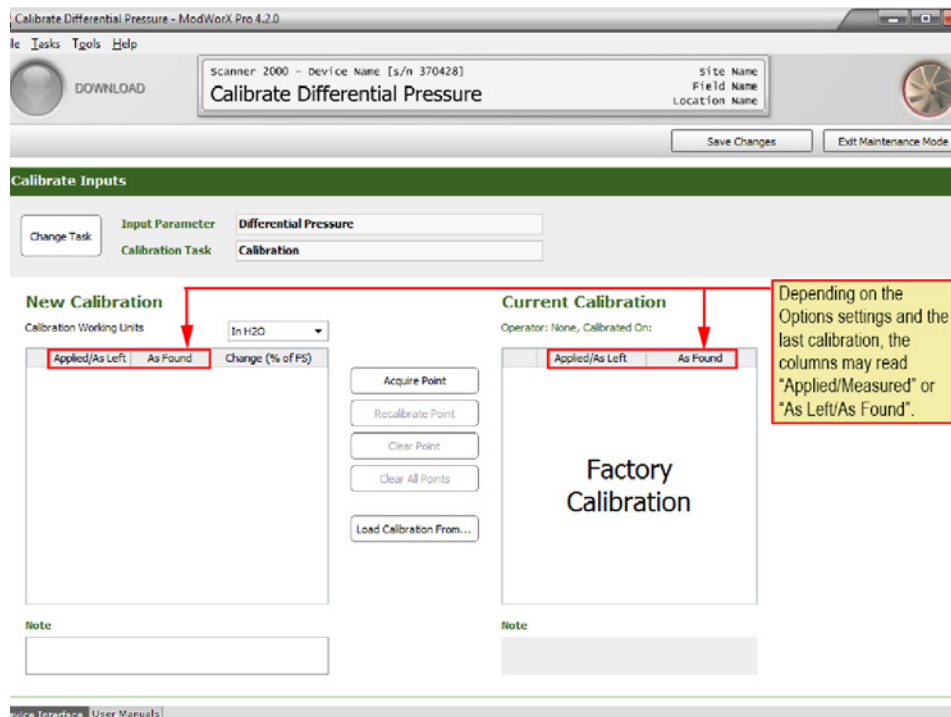

Figure 8.3
3. The Calibrate Differential Pressure screen will appear, and the input parameter and calibration task selections you made will appear at the top of the screen (Figure 8.3, page 113).
- In Figure 8.3, the “Calibration Working Units” located above the new calibration table shows the unit of measure to which the differential pressure will be calibrated. To use a different unit, select the desired unit from the Calibration Working Units dropdown menu.